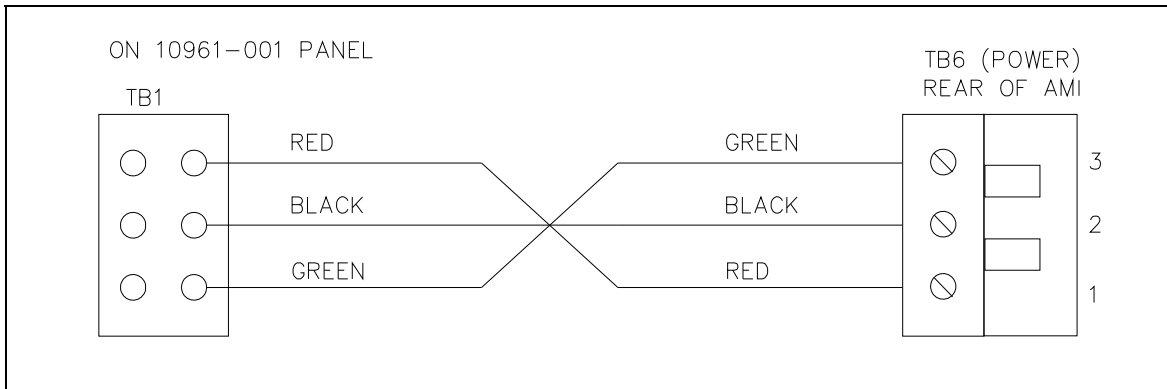

Figure 7. 61531-040 Cable Assembly Connector Termination
- Remove TB6 (power) connector plug from its socket on the back of the AMI. Attach the TB6 connector plug to the 61531-040 cable assembly conductor ends that do not have spade lugs. Refer to Figure 7.